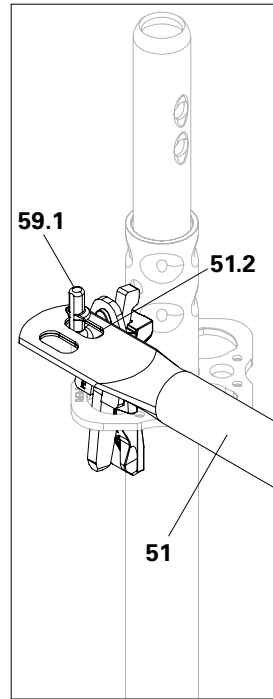

Fig. A3.01b
2. Align the slot (51.2) with the guardrail hook (59.1) and insert. (Fig. A3.01b)